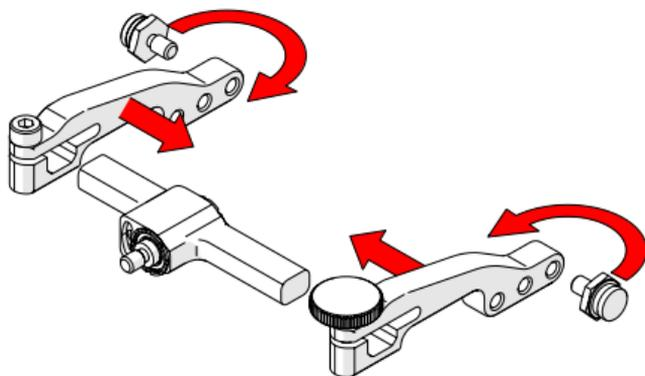

Fig. 108 - Attach arms and move buttons
4. Place the pivot buttons on the inside of the probe holder arms (Fig. 108) using a 3/8 in wrench (Fig. 25). Slide the arms onto the yoke and tighten the probe holder arm adjustment knob and the arm clamp screw.